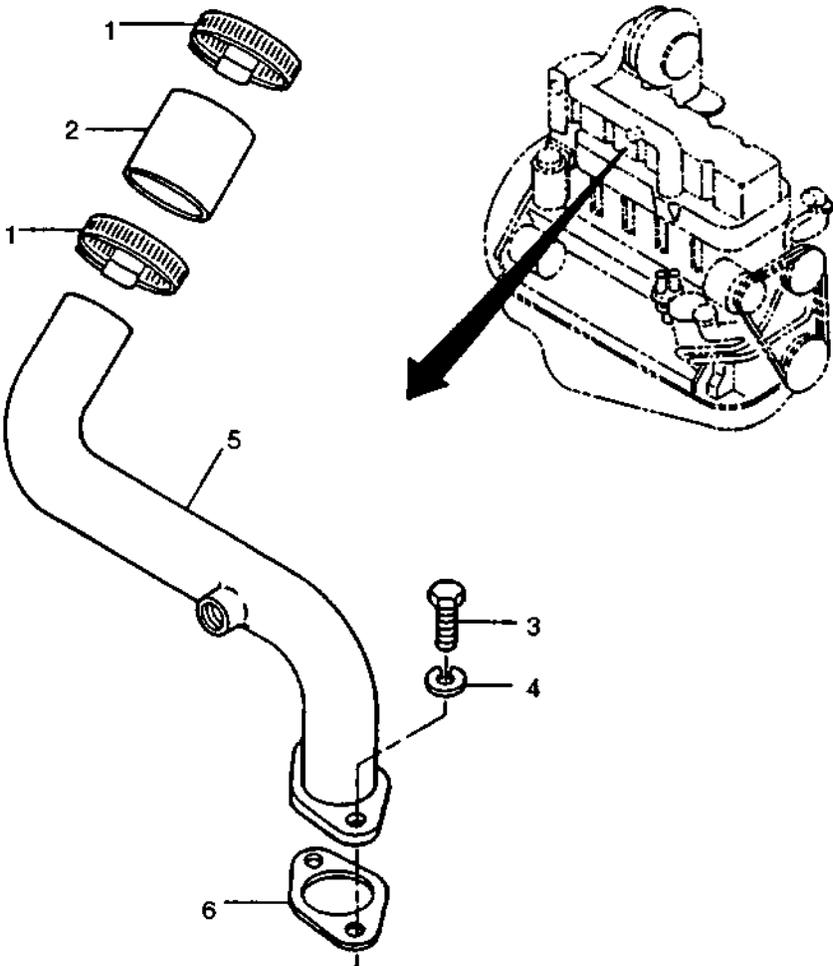

FIGURE 3-45. Intake Manifold
- a. Loosen two clamps (1, FIGURE 3-45) securing hose (2) to turbocharger and air inlet elbow (5). Remove clamps and hose.
- c. Remove two capscrews (3) and lockwashers (4) securing air inlet elbow (5) to cylinder head. Remove elbow and gasket (6); discard lockwashers (4) and gasket (6).
- b. Position new gasket (6, FIGURE 3-45) and air intake elbow (5) on cylinder head and secure with two capscrews (3) and new lockwashers (4). Tighten capscrews to 35 ft-lbs (47 Nm).
- c. Ensure hose (2) is in good condition and install it between turbocharger and air intake elbow (5) and secure with two clamps (1).